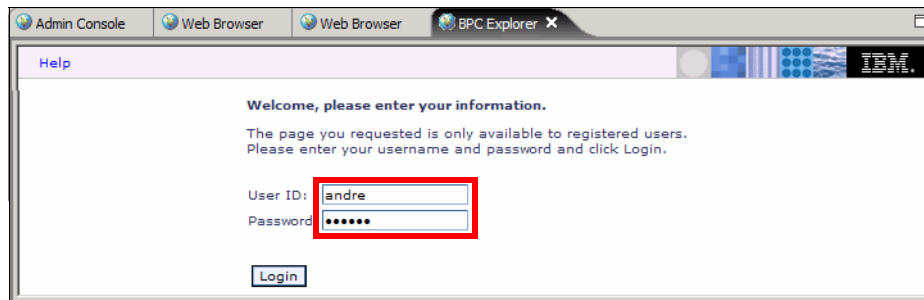

Figure 11-13 BPC Explorer: login
- ▶ You are prompted to login (Figure 11-13).